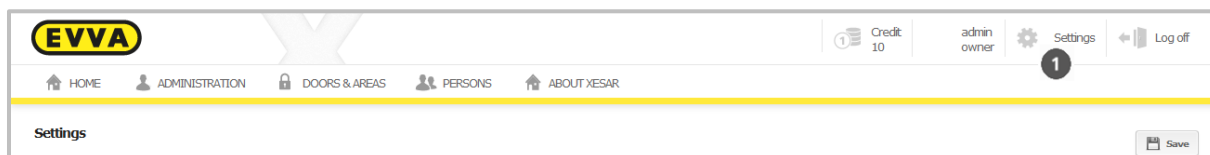

Figure 51: Settings
Click **Settings** ❶ (Figure 51: Settings) to open the corresponding menu.